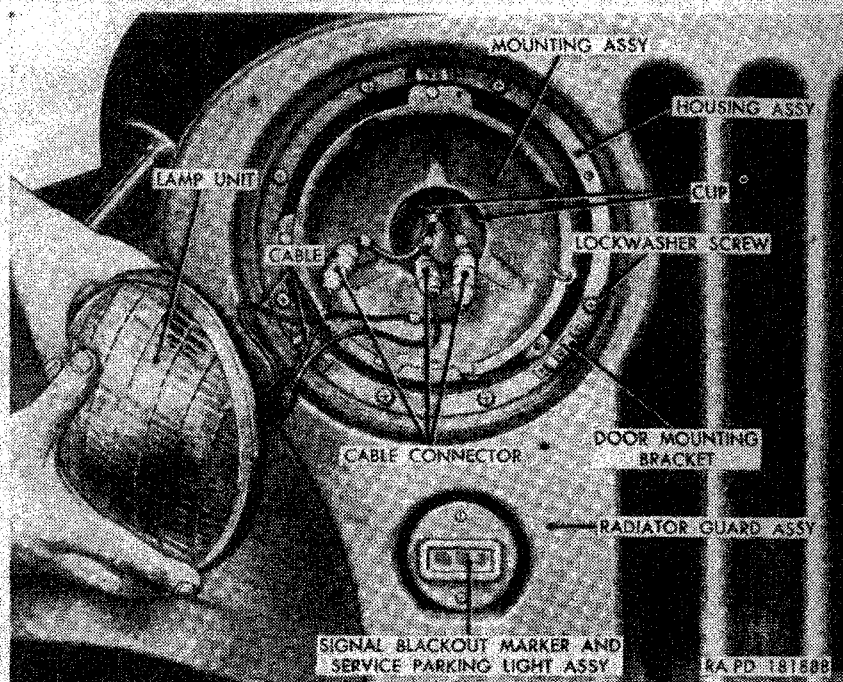

Figure 102. Removing headlight lamp-unit with cables assembly.
- (3) Remove the seven lockwasher screws from the front, and one lockwasher screw from the rear, securing the headlight housing assembly and the ground cable 91, to the radiator guard assembly, and remove the headlight housing assembly with the lamp-unit mounting assembly (fig. 102) and the headlight assembly mounting pad from the vehicle.
- (1) Position the mounting pad on the rear of the housing assembly and align pad mounting holes with housing mounting holes.
- (2) Position the housing assembly and mounting pad in radiator guard assembly (fig. 102) and align housing and pad mounting holes with radiator guard mounting holes. Secure housing and pad to guard with seven No. 10 x $\frac{1}{2}$ lockwasher screws from the front. Position the cable 91 (fig. 104) on the guard assembly at the rear and install a No. 10 x $\frac{1}{2}$ lockwasher screw.